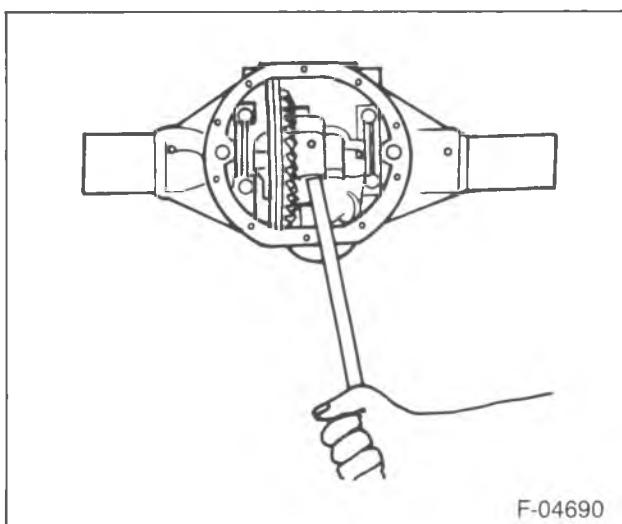

Figure 2—Prying the Differential Case from the Axle Housing
8. Differential carrier (24)
- Pry the case from the axle housing at the differential "window" (figure 2).
9. Bearing outer races (8) and shims (9).